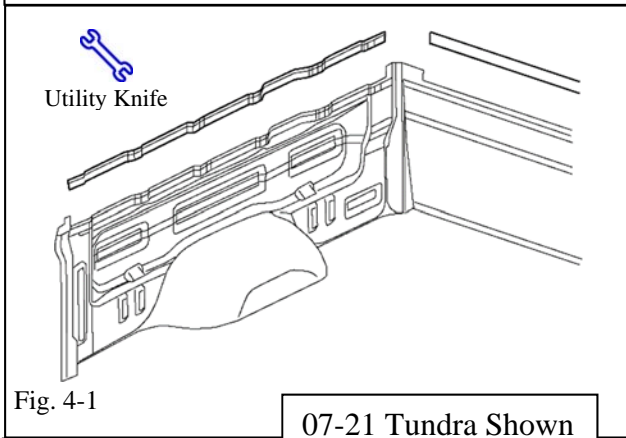
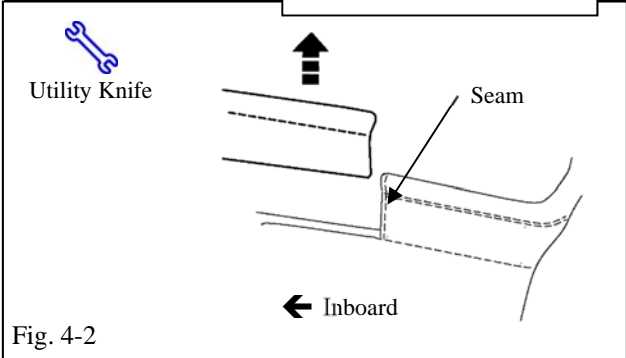

Fig. 4-1
Fig. 4-2
- For 07-21 Toyota Tundra, trim off sections of the sides and/or bulkhead area if a bedrail is present. (Fig. 4-1) These trim lines are located on the back side of the side walls and bulkhead, and will vary depending on application. The BedRug bulkhead has vertical seams sewn on both sides, cut inboard of the seam. (Fig 4-2)